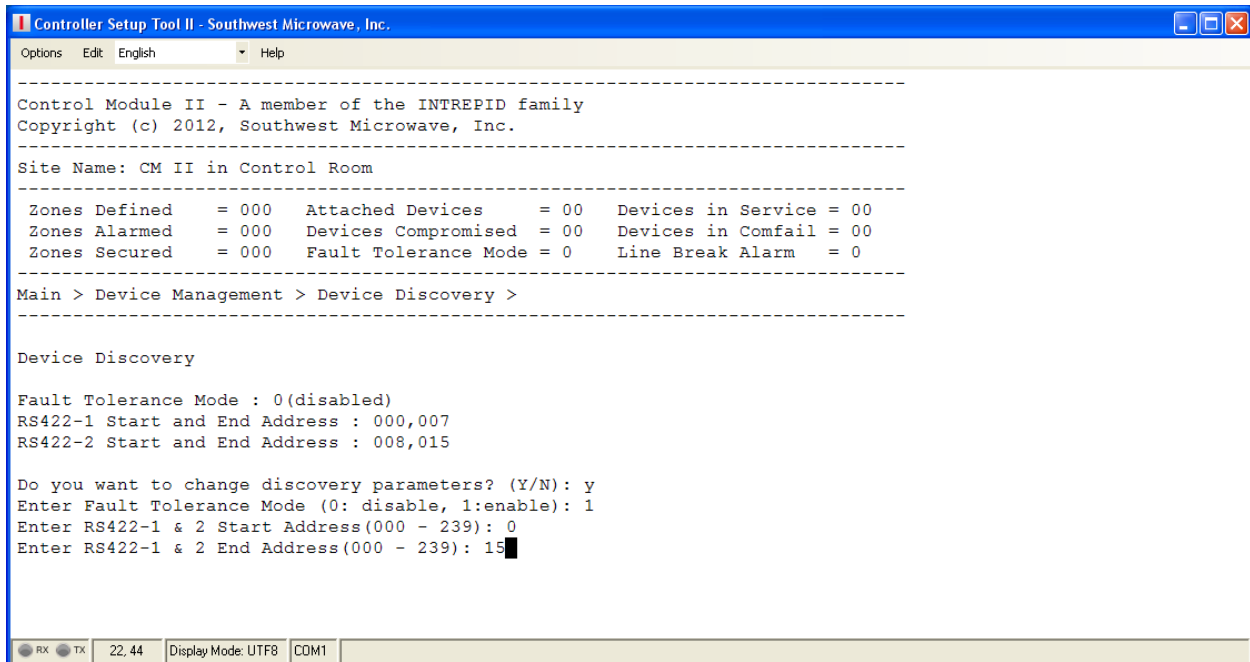

Figure 24 – Device Discovery Fault Tolerance Loop
With the Fault Tolerance Mode enabled (1) the next prompt will be to enter the RS422-1 and RS422-2 port start address. Enter the node address and select enter. The next prompt will be to enter the RS422-1 and RS422-2 port end address as shown in Figure 24. Press enter to start the discovery process.